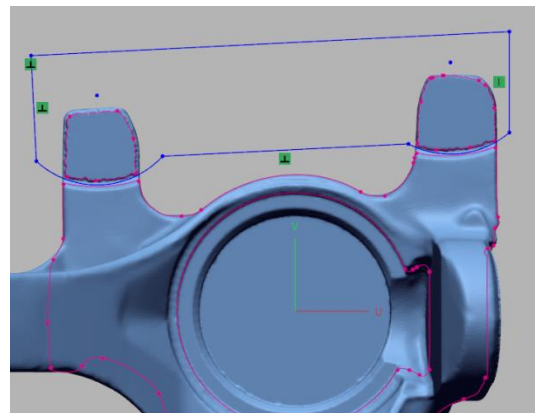

Figure 291
- Draw a sketch similar to **Figure 291**.